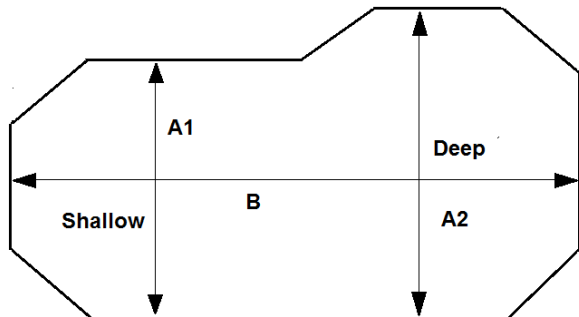
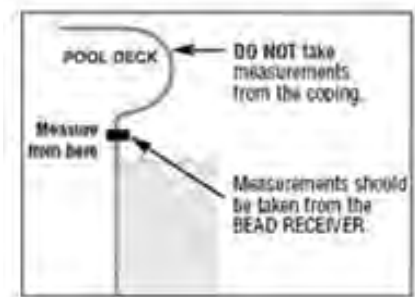

Figure 1
Figure 2
Referring to the illustration of your emerald pool (figure 1), be sure that the width (A1) in the "shallow end" and (A2) in the "deep end", as well as the length (B) measurements are made at the bead receiver (where the liner snaps into the track), not at the edge of the coping (the edge of the pool deck). See figure 2.